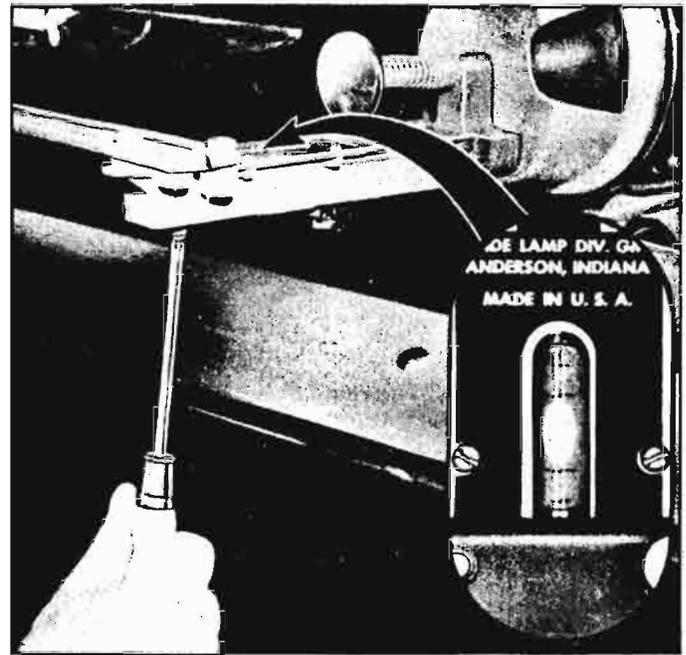

Fig. 8-99—Turning Level Adjusting Screw to Calibrate Aimer
- If the bubble is not centered, adjust screw (fig. 8-99) on the bottom of the aimer until the bubble is centered. The aimer is now calibrated vertically for a level floor.
5. Recalibrate aimers by turning screw shown in Figure 8-99 until the bubble is centered.